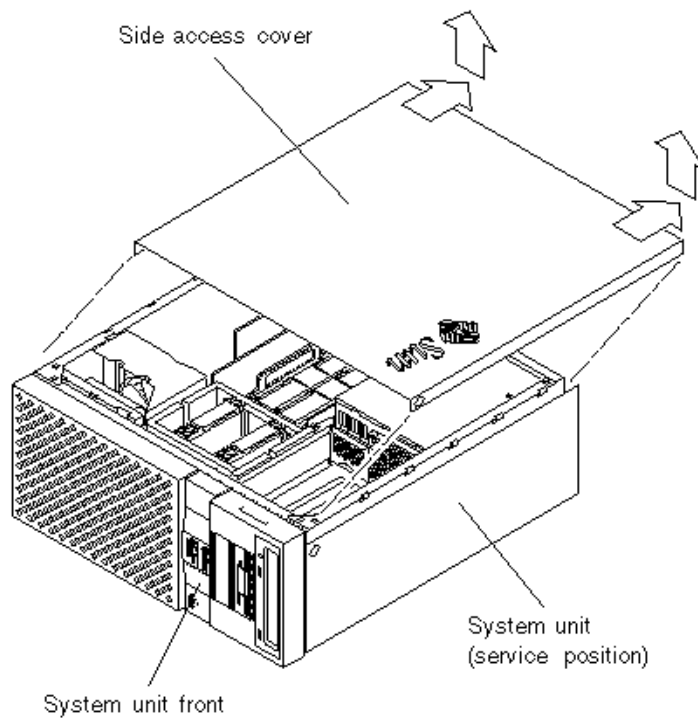

Figure 7-2 Removing the Side Access Cover
3. **Remove the side access cover as follows (Figure 7-2):**